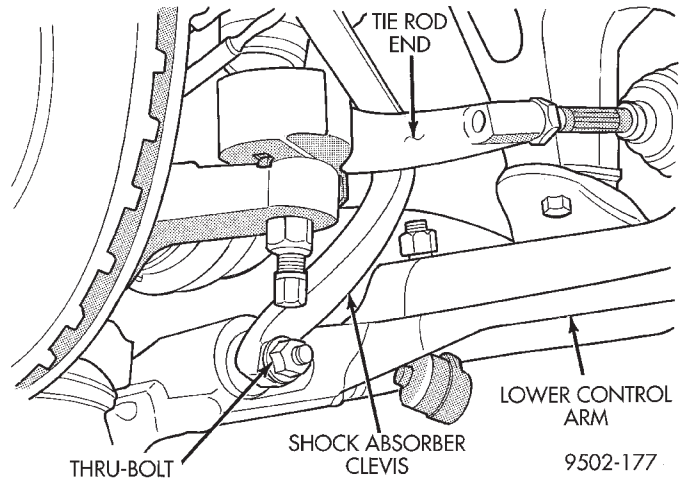
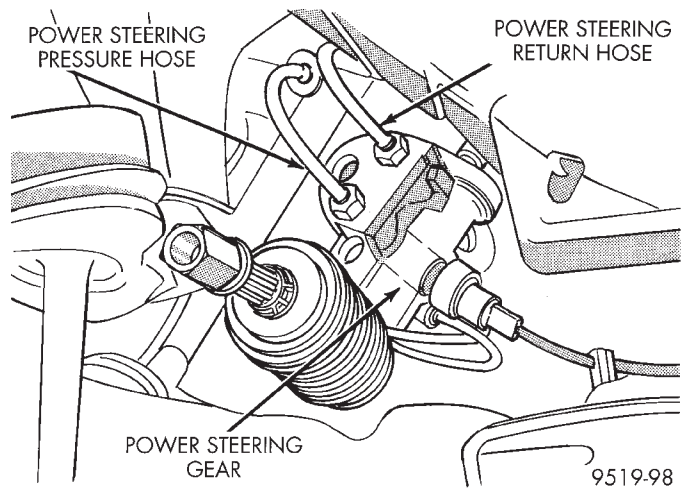

Fig. 13 Shock Clevis To Lower Control Arm Bolts
Fig. 18 Power Steering Pressure And Return Hose At Steering Gear
(11) If vehicle is equipped with antilock brakes, the hydraulic control unit can not hang from the brake tubes when lowering front suspension crossmember. Using wire, tie the antilock brakes hydraulic control unit to the body and engine so the wire will support it when the crossmember is lowered.
(12) If vehicle is equipped with antilock brakes, remove the 3 bolts attaching the antilock brakes hydraulic control unit to the front suspension crossmember.
(13) Remove the bolts attaching the shock absorber clevis to the left and right lower control arms (Fig. 13).
(20) Remove power steering fluid, pressure and return hoses from the power steering gear assembly (Fig. 18).
(21) Remove wiring harness connector, (Fig. 18) from the power steering fluid pressure switch.
(2) Install the power steering fluid pressure and return lines on the ports of the power steering gear (Fig. 18). Tighten power steering fluid pressure and return lines to steering gear tube nuts (Fig. 18) to a torque of 31 N·m (275 in. lbs.).
(8) Install vehicle wiring harness connector (Fig. 18) onto power steering fluid pressure switch on steering gear assembly. **Be sure locking tab on wiring harness connector is securely latched to pressure switch.**
(9) Install the antilock brakes hydraulic control unit mounting bracket on the front suspension crossmember. Install the 3 mounting bracket to crossmember attaching bolts and tighten to a torque of 28 N·m (250 in. lbs.).
(10) Loosely install the 2 shock absorber clevis to lower control arm attaching nuts and bolts (Fig. 13).
(15) Tighten the shock absorber clevis to lower control arm bushing thru-bolt (Fig. 13) to a torque of 92 N·m (68 ft. lbs.).
(16) Install the wheel and tire assemblies back on vehicle. Tighten the wheel nuts in proper sequence to a torque of 129 N·m (95 ft. lbs.) torque.